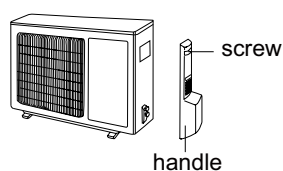

Fig.21
- (1) Remove the screws fixing big handle, valve cover(only for the model with the valve cover) and then remove them.(As show in Fig.21)